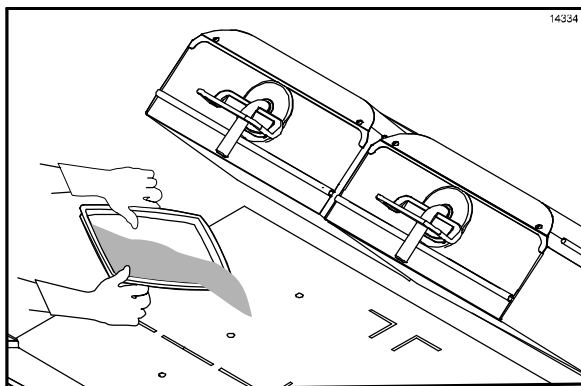

Figure 93
34. Pour the remaining **McD Hi-Temp Grill Cleaner (HTGC)** onto the lower grill surface. (See Figure 93.)